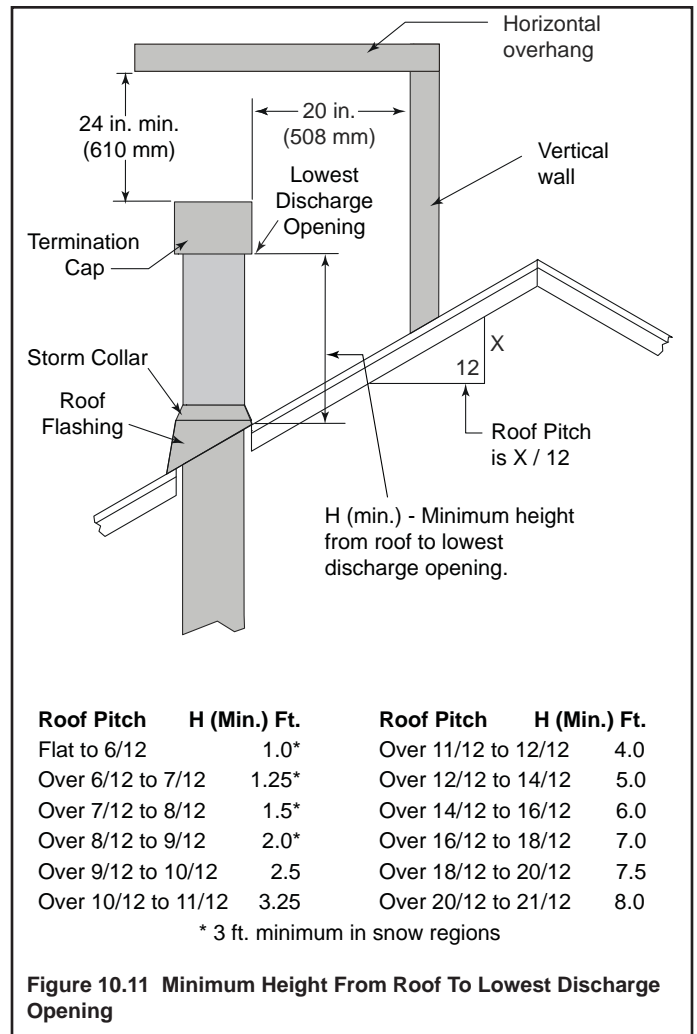

Figure 10.11 Minimum Height From Roof To Lowest Discharge Opening
- See minimum vent heights for various pitched roofs (Figure 10.11) to determine the length of pipe to extend through the roof.